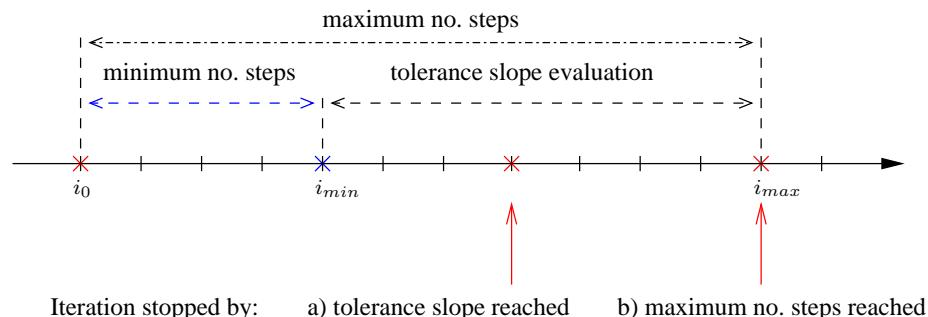

Figure 4: Subcycling behaviour with tolerance slope.
- When the Tolerance slope is selected, the options listed below are available (cf. Figure 3b). They allow you to use the tolerance slope as additional criterion to the maximum number of steps to define the subcycling stopping criteria. The Tolerance slope is evaluated at each solver iteration step in the iteration interval defined by Minimum no. of steps (i_{min}) and Maximum no. of steps (i_{max}) (cf. Figure 4).